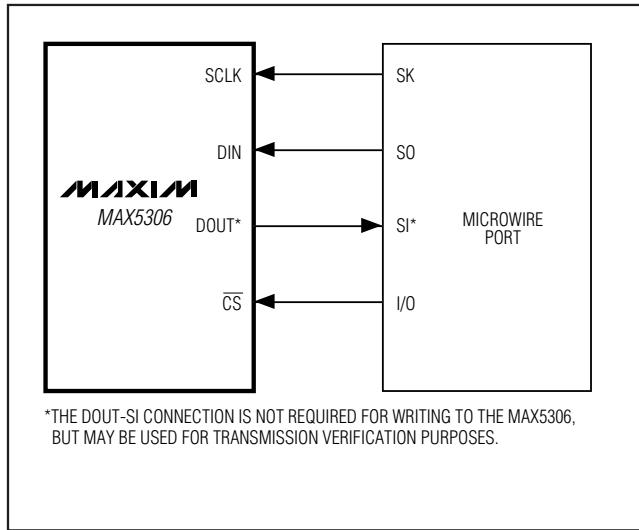
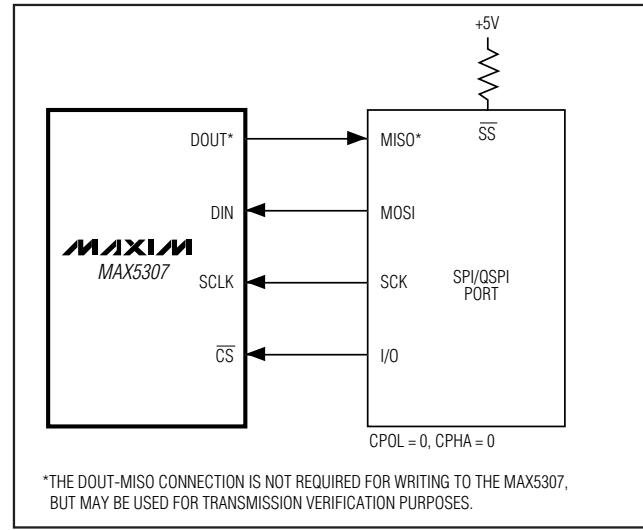

Figure 2. Connections for MICROWIRE
Figure 3. Connections for SPI/QSPI
The MAX5306/MAX5307 3-wire serial interface are compatible with MICROWIRE, SPI, QSPI, and DSPs (Figure 2 and Figure 3). The chip-select input (CS) frames the serial data loading at DIN. Following CS's high-to-low transition, the data is shifted synchronously and latched into the input register on each falling edge of the serial clock input (SCLK). Each serial word is 16 bits, the first four bits are the control word followed by 12 data bits (MSB first) as shown in Table 1. The 12-bit DAC code is unipolar binary with 1LSB = VREF/4096.